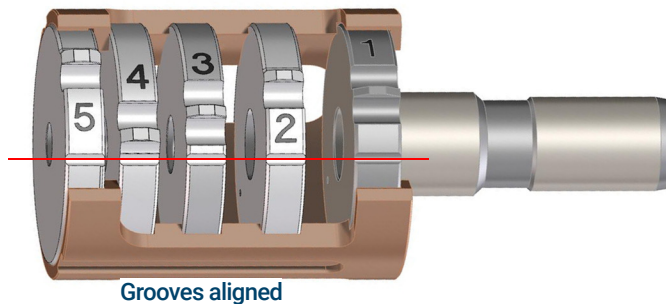

Figure 50 Assembled EI HES lens stack
- 1 Assemble the five lenses inside the lens insulator. (See Figure 50 on page 161.) The lens number is engraved into the outer circumference of each lens.